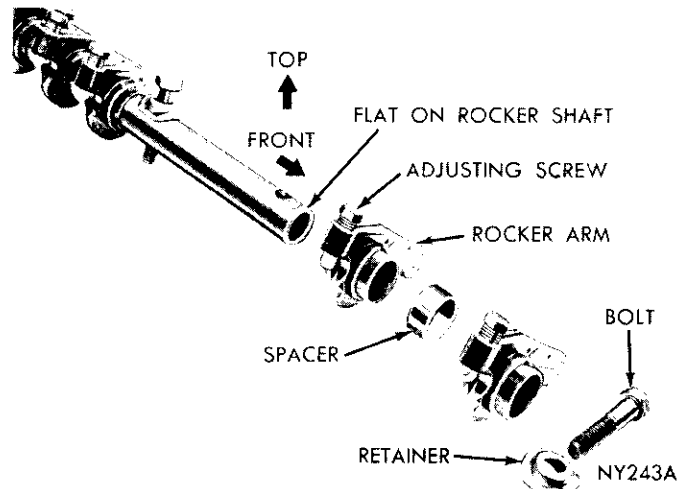

Fig. 6—Rocker Shaft Assembly
(1) Rocker arms and shaft assembly must be installed, as shown in Figure 6. The flat on the end of rocker shaft must be on top and point toward front of engine. This is necessary to provide proper lubrication to rocker assemblies.
(2) Install rocker shaft retainers between rocker arms so they seat on rocker shaft and not on the extended bushing of rocker arm.
(5) Install rocker arms and shaft assembly with "FLAT" on end of rocker shaft "ON TOP" and pointing toward front of engine, as shown in Fig. 6 to provide proper lubrication to rocker assemblies. **Install rocker shaft retainers between rocker arms so they seat on rocker shaft and not on extended bushing of rocker arm.** Be sure to install long retainer in center position only. Install rocker shaft bolts (long bolt at rear of engine) and tighten to 25 foot-pounds.
(6) Loosen the 3 bolts holding intake manifold to exhaust manifold. This is required to maintain proper alignment.
(7) Install intake and exhaust manifold and carburetor assembly to the cylinder head with cup side of the conical washers against manifolds. Tighten nuts to 10 foot-pounds.
(8) Tighten 3 bolts holding intake manifold to exhaust manifold to 15 foot-pounds.